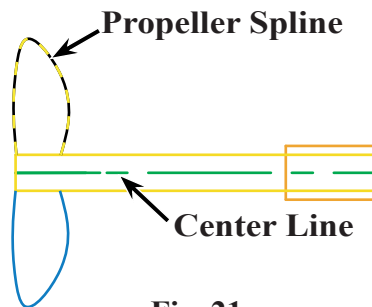

Fig. 21
Step 2. Click **spline** and click **End Selection**  (ENTER) Fig. 21.
Click **centerline**, Fig. 21